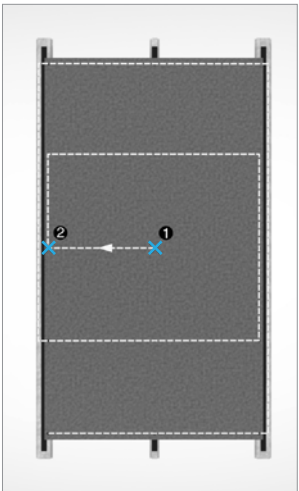

FIGURE 18.
- When installing Genesis Signature, begin with the two fixed points (1 then 2), followed by the remaining gliding points above the fixing positions and finally the gliding points below. (see Figure 18)